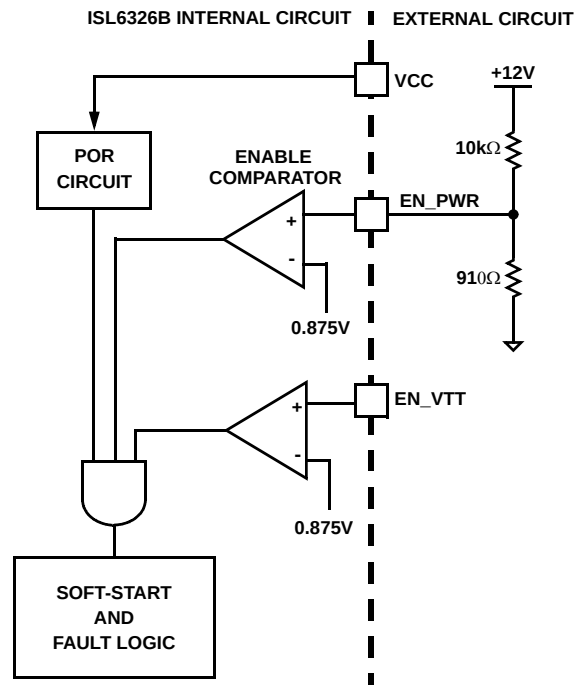

FIGURE 7. POWER SEQUENCING USING THRESHOLD-SENSITIVE ENABLE (EN) FUNCTION
2. The ISL6326B features an enable input (EN_PWR) for power sequencing between the controller bias voltage and another voltage rail. The enable comparator holds the ISL6326B in shutdown until the voltage at EN_PWR rises above 0.875V. The enable comparator has about 130mV of hysteresis to prevent bounce. It is important that the driver ICs reach their POR level before the ISL6326B becomes enabled. The schematic in Figure 7 demonstrates sequencing the ISL6326B with the